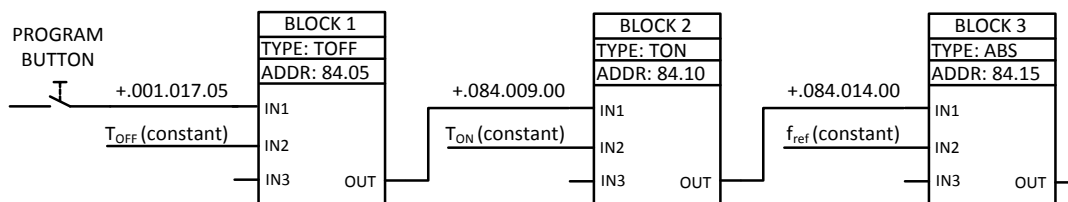
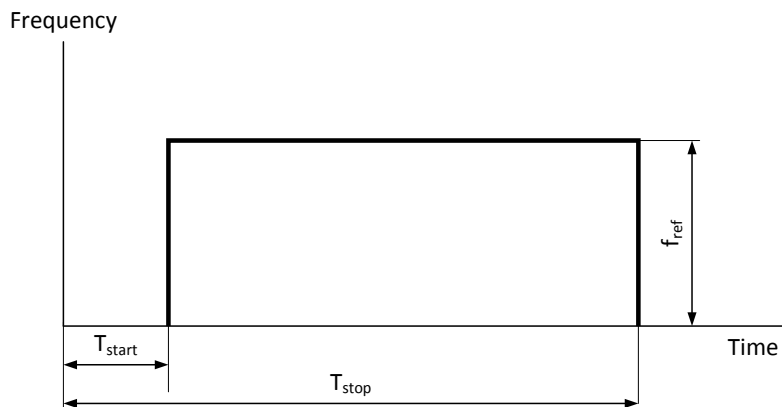
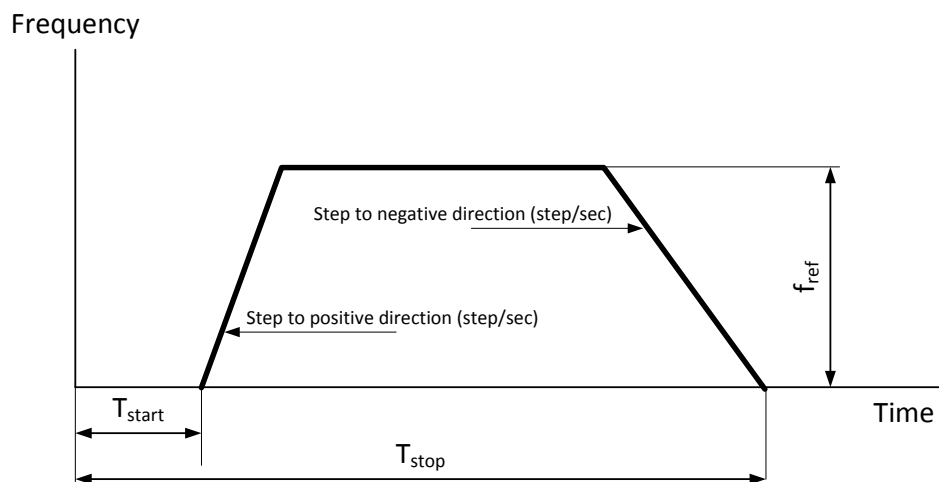

Fig. 7 Adaptive program of a rectangle pulse
Fig. 8 Rectangle pulse of reference frequency
Fig. 9 Pulse with ramps
4. Prepare the program shown in Fig. 7 for the rectangle pulse shown in Fig. 8. To this aim, choose the function block TOFF as the Block Parameter Set 1 (84.05). For the input I1 of the Block Parameter Set 1 (84.06), assign the console PROGRAM button as the source (digital input DI6, address +.001.017.05). For the input I2 of the Block Parameter Set 1 (84.07), assign the 24-bit integer as the timer value  $T_{stop}$  in the range of C.15000...C.20000 (15...20 s, one bit corresponds to 1 ms).
8. Draw the developed program using Fig. 7 as an example.
2. Convert the rectangle pulse of Fig. 8 to the ramping pulse shown in Fig. 9. To this aim, choose the function block RAMP as the Block Parameter Set 4 (84.20). For the input I1 of the Block Parameter Set 4 (84.21), assign the output of the Block Parameter Set 3 as the source (address +.084.019.00). For the input I2 of the Block Parameter Set 4 (84.22), assign the value in the range of C.2000...C.4000 step/sec as the step to the positive direction. For the input I3 of the Block Parameter Set 4 (84.23), assign the value in the range of C.500...C.1500 step/sec as the step to the negative direction.
8. Draw the developed program using Fig. 7 as an example and save the traces.
7. Prepare the rectangle pulse shown in Fig. 8 above using the directions and parameters of Work 4.